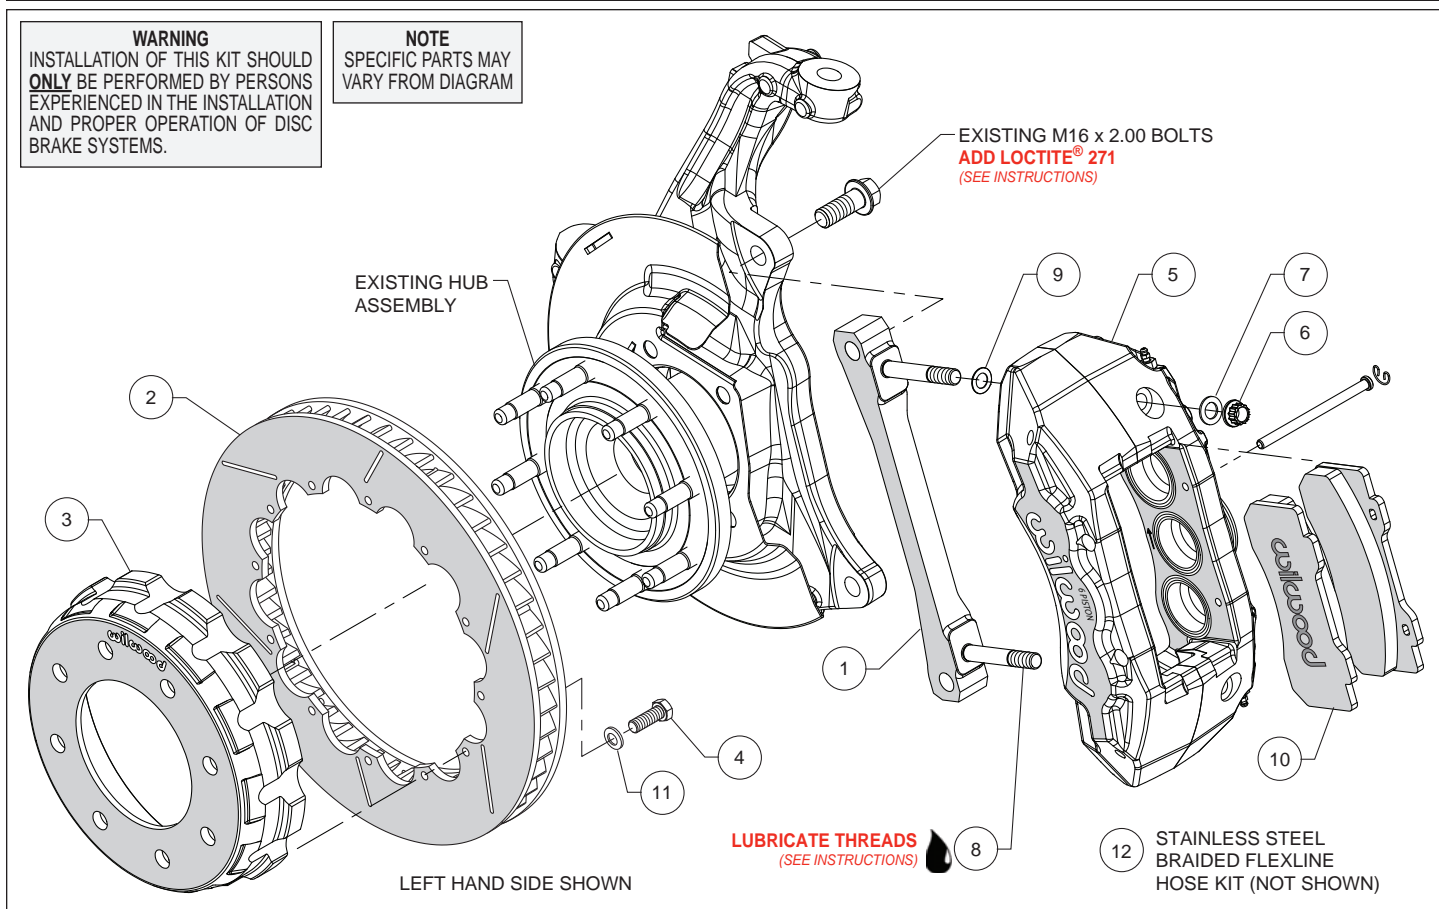
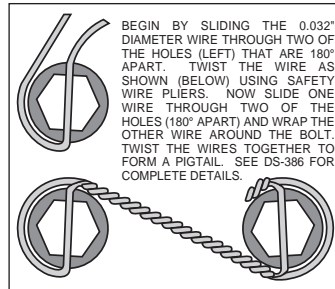

Figure 1. Typical Installation Configuration
Figure 3. Safety Wire Diagram
Assembly Instructions (numbers in parenthesis refer to the parts list and Figure 1 on the preceding pages):
- The caliper mount bracket (1) should initially be installed with clean, dry threads on the mounting bolts. Orient the bracket as shown in Figure 1 and Photo 1, and install using saved OE bolts. Temporarily tighten the mounting bolts. **NOTE:** The bracket must fit squarely against the mount bosses on the upright. Inspect for interference from casting irregularities, machining ridges, burrs, etc. Remove the mounting bolts one at a time and apply red *Loctite*® 271 to the threads and torque to manufacturer's specifications.
- Orient the rotor (2) and the hat (3) as shown in Figure 1 and Photo 2. Attach rotor to hat using bolts (4) and washers (11). Using an alternating sequence, torque to 25 ft-lbs. For an added measure of security, the bolts may be safety wired using standard 0.032 inch diameter stainless steel safety wire as shown in Figure 3. Please refer to Wilwood's data sheet DS-386 (available at www.wilwood.com/Pdf/DataSheets/ds386.pdf) for complete safety wire installation instructions.
- **NOTE:** This kit contains distinct right and left hand calipers that must be mounted in a specific direction, as described below. Lubricate the caliper mounting studs (8) with lightweight oil. Initially place one .032" thick shim (9) on each stud as shown in Figure 1 and Photo 3. Mount the caliper (5) onto the bracket (1) using lock nuts (6) and washers (7), Figure 1. Ensure that the caliper is mounted so that the largest pistons are at the rotor exit end of the caliper, in relation to the direction of rotor rotation. Temporarily tighten the lock nuts.